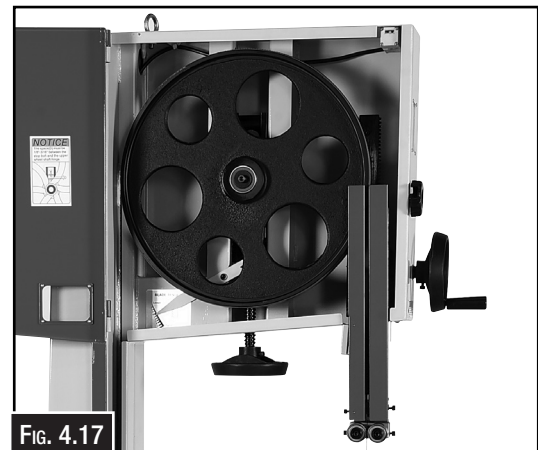

FIG. 4.17
2. Open the upper and lower covers. (Fig. 4.17)